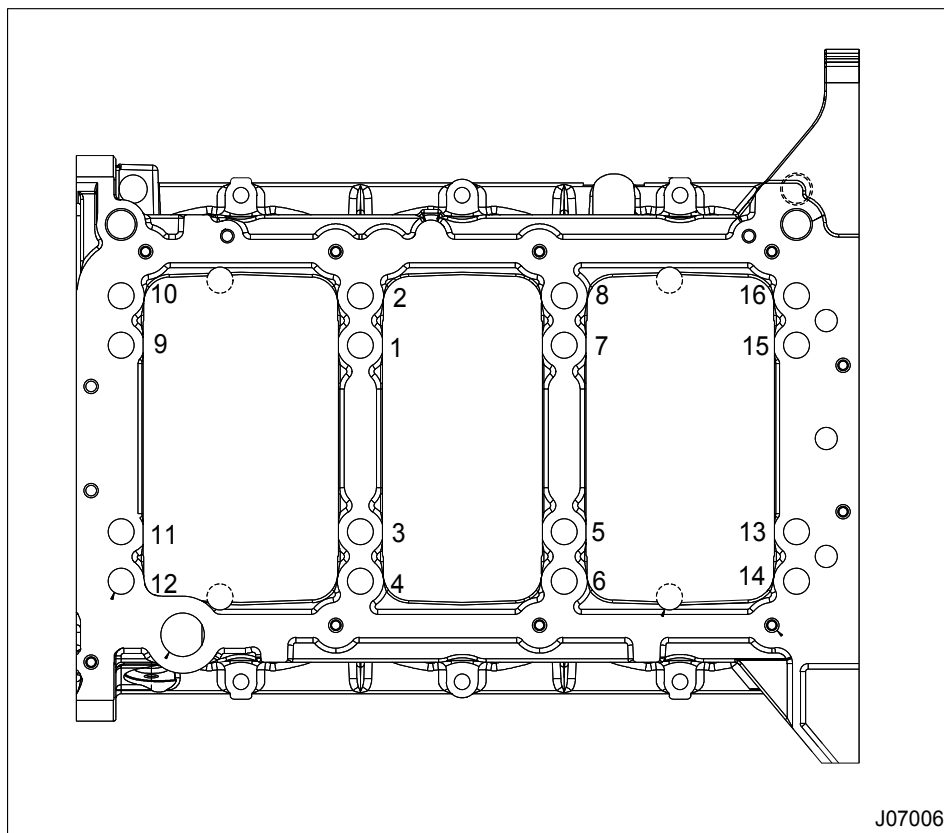

Figure 523 Lower crankcase main bearing bolt torque sequence
6. Install all 16 lower crankcase main bearing mounting bolts. Tighten main cap bolts to the special torque as follows using the sequence shown in the "Lower crankcase main bearing mounting bolt tightening sequence" (Figure 523):
- a. Initially torque bolts to 122 N·m (90 lbf·ft) in the numerical sequence shown in "Lower crankcase main bearing mounting bolt tightening sequence" (Figure 523).
- b. Increase torque for bolts to 163 N·m (120 lbf·ft) in the numerical sequence shown in "Lower crankcase main bearing mounting bolt tightening sequence" (Figure 523).
- c. Increase torque for bolts to a final value of 231 N·m (170 lbf·ft) in the numerical sequence shown in "Lower crankcase main bearing mounting bolt tightening sequence" (Figure 523).